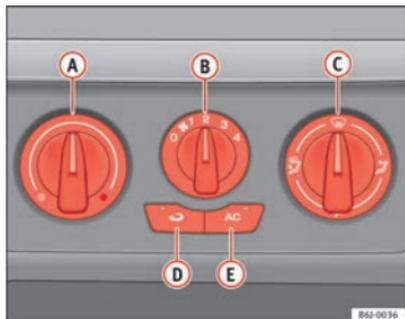

Fig. 95 Air conditioning controls on the dash panel
- Disconnect the cooling system using button ⇒ fig. 95 **AC** (the button light turns off).